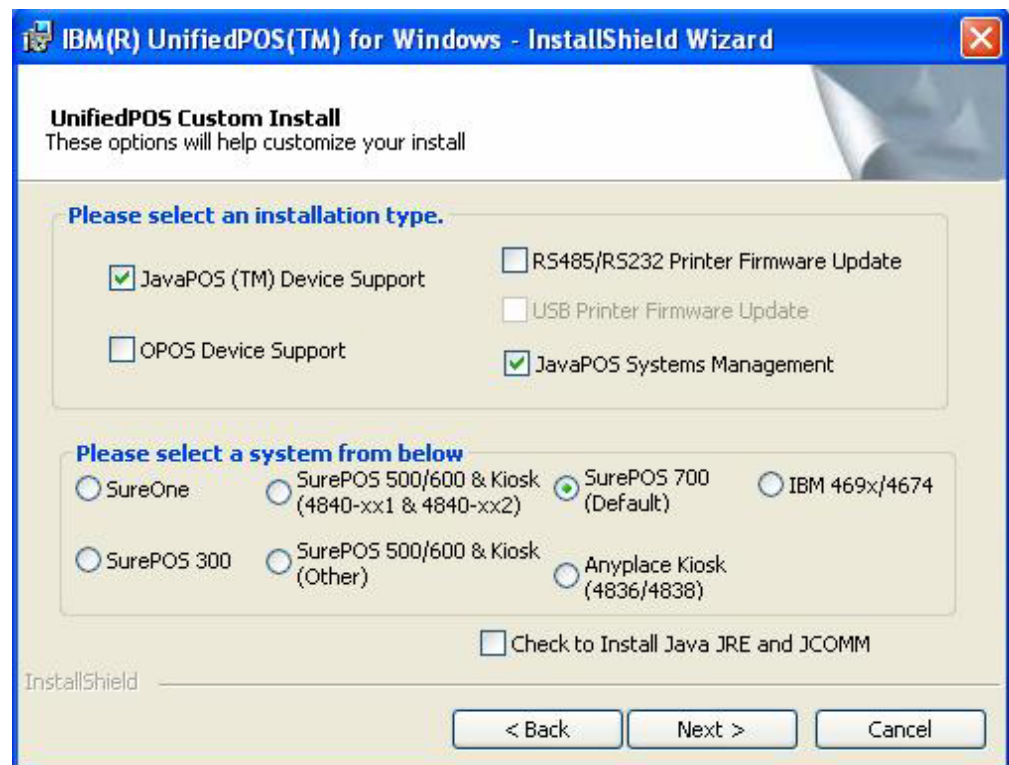

Figure 1. Features dialog
2. In the Features dialog (Figure 1), you can choose either or both of the following features: